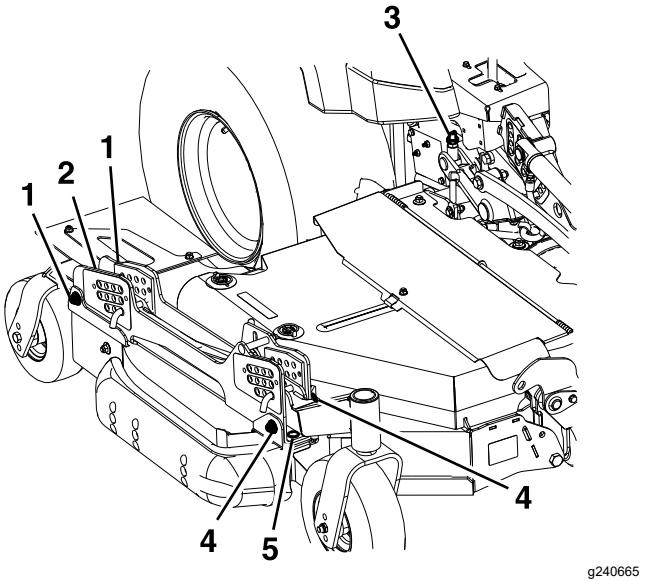

Figure 78
- The left and right wing decks have blade height adjustments with front and rear adjustment points. To adjust the wing-blade height, first loosen the front and rear height-of-cut hanger mounting nuts. There are 4 locations (2 on each side of the channel) as shown in Figure 78.
- If the deck is too low, tighten the front height-adjustment bolt (Figure 78) by rotating the bottom nut clockwise.
- If the deck is too high, loosen the front height-adjustment bolt (Figure 78) by rotating the bottom nut counterclockwise. Fine-tune the rear adjusters as required.
Adjust the rear wheel height (Figure 78) so that the rear wheel lightly touches the ground with minimal pressure.
- Measure the back of the wing blades. If either has less than 1.5 mm (1/16 inch) rake, raise the rear of the deck by tightening the left and right rear adjustments (Figure 78) until all 4 blades have a minimum of 1.5 mm (1/16 inch) rake. Adjust the rear wing wheels so that they lightly touch the ground with minimal pressure. Tighten all 4 rear hanger-mount locations (Figure 78).